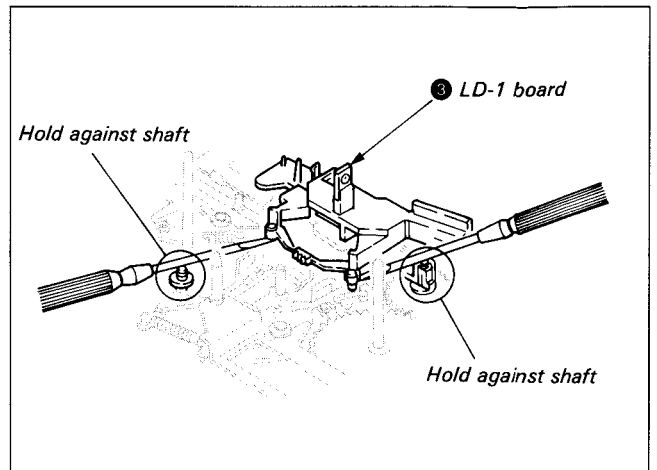

Fig. 7-37.
### 7-3-14. M-SW Assembly (See Fig. 7-37 ~ 39)
- 2) Remove stopper washer ① and the drive gear (B) assembly ②.
- 3) Remove the LD-1 board ③. (See Fig. 7-37.)
- 5) Remove tension spring ④ and B release arm ⑤.
- 7) Remove stopper washer ⑥ and the mode output gear ⑦.
- 8) Remove screw ⑧ and the push switch ⑨.
- 9) Remove connector ⑩.
- 10) Remove the three screws ⑪, the control motor cover ⑫ and the M-SW assembly ⑬.
- 11) Remove solder ⑭ and remove the DC motor ⑮.
- 5) Perform 7-3-14., 1. Removal, Steps 1)~5). (See Fig. 7-37, 7-38.)